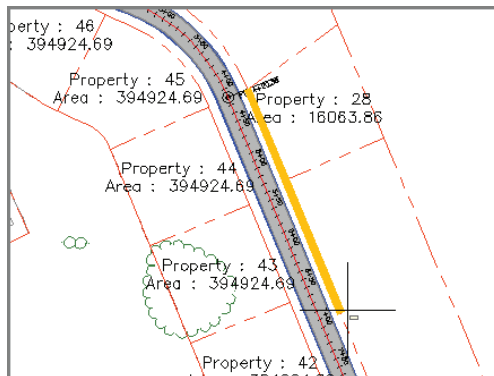

FIGURE 12.18 Defining the frontage for the parcel-editing command
8. Move your cursor southward along the right-of-way line, and click somewhere near station *7+00* (*0+210*), as shown in Figure 12.18.